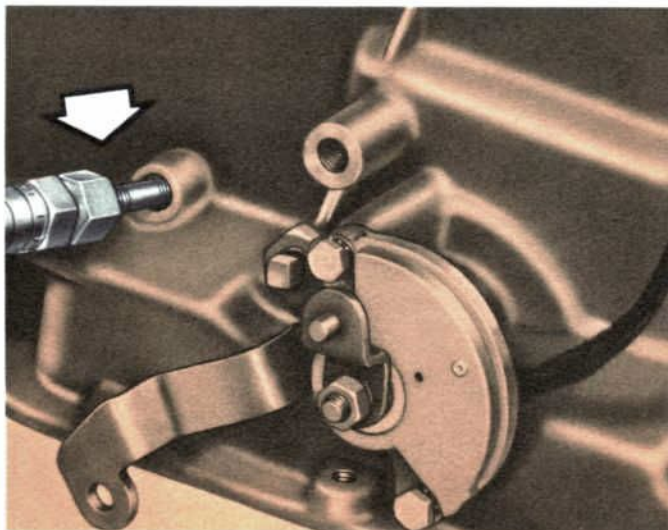

Fig. 83—Control Pressure Gauge Connection
- **Pressure Gauge**—Control pressure tap at left front of case (Fig. 83).